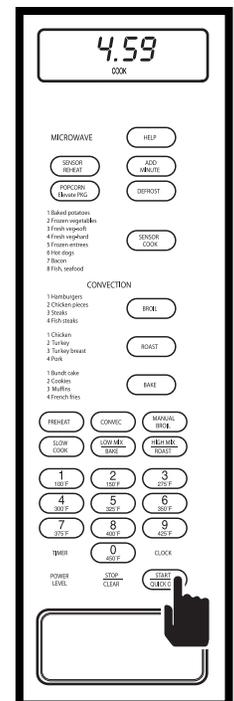

Figure 3-44.
7. Press QUICK ON/START key to begin. The oven will energize, the display will show the countdown, starting with first input (See Figure 3-44), and the control will automatically switch from one time and power level to the next. At the end of Multiple Sequence Feature, "END" will flash on display and alarm will beep.